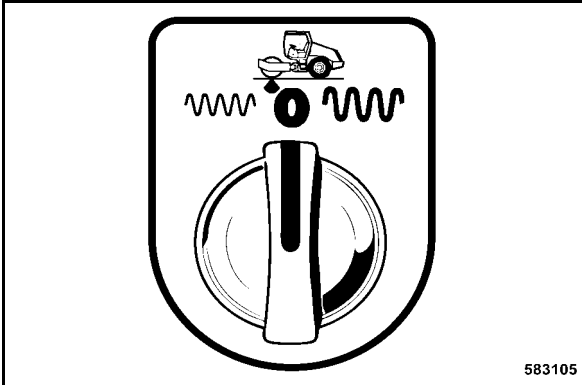

Fig. 47
- Switch the rotary switch for vibration amplitude pre-selection (Fig. 47) to position "0".